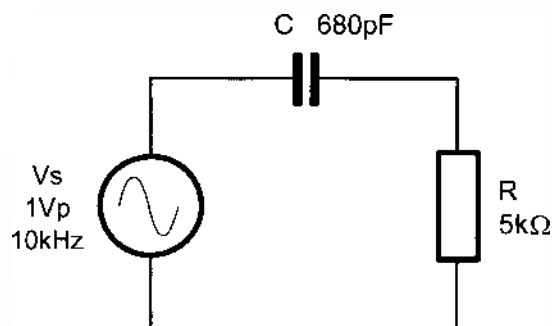

Figure 11
1. Calculate the reactance of the capacitor in the circuit of Figure 11.